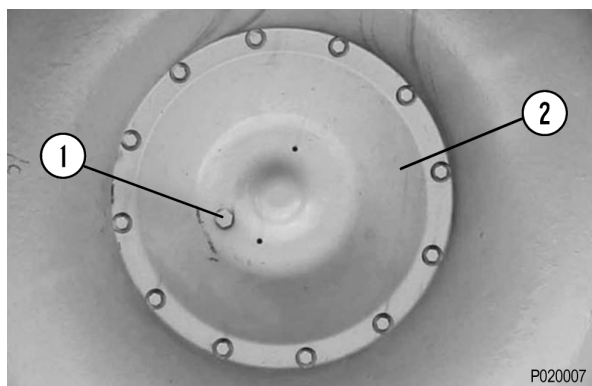

FIGURE 2-7.
9.	MAGNETIC PLUG - Remove the magnetic plugs from the front wheel hub covers and inspect for debris. Clean the plugs and perform any necessary repairs. Refer to Figure 2-7.